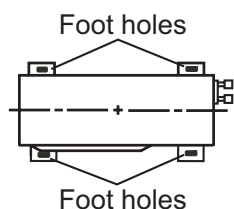

Fig.20
- (1) Place the outdoor unit on the support.
- (2) Fix the foot holes of outdoor unit with bolts. (As show in Fig.20)